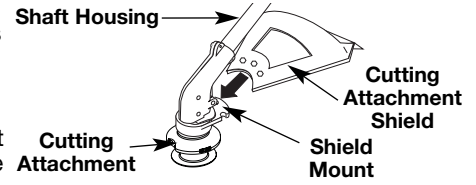

Fig. 4
1. Slide the cutting attachment shield into the shield mount on the cutting attachment. Align the screw holes in the shield with the holes in the cutting attachment (Fig. 4).